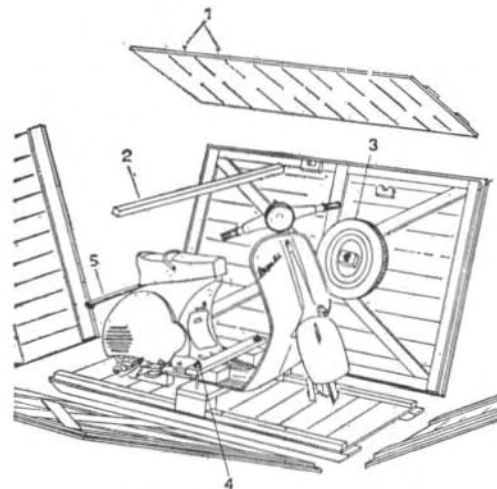

Fig. 19 - Crate for Vespa G.S. with wheels only removed.
- Undo the screws (1) and take off the crate cover (see Fig. 19); unnailed, from the long sides, the cross bar (2) supporting the cover.
- Using the hand tools in the left wing, remove the wheel (3), secured on a long side of the crate, and the cross board (4) bearing on the scooter floorboard; unnailed the wooden block retaining the handlebar, then remove the bar (5) secured at the rear of the dual seat.